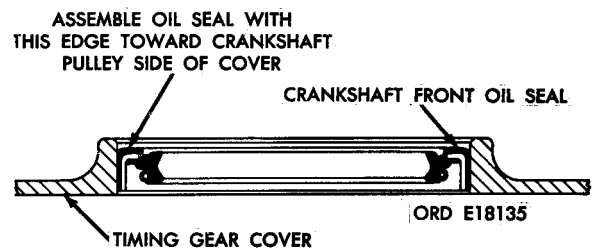

FIGURE 211. INSTALLATION INSTRUCTIONS FOR CRANKSHAFT FRONT OIL SEAL.
- (1) The crankshaft front oil seal has a double lip which must be installed in the timing gear cover assembly with flange edge away from cover mounting flange. Refer to figure 211 for installation instructions.